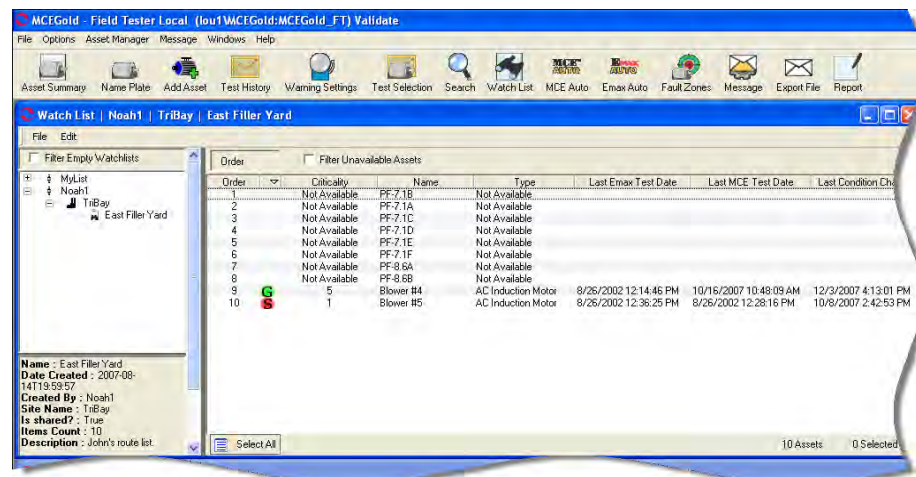

Figure 4-49: Field Tester Local - Home Window
2. Click **OK**. The home window of the Field Tester Local displays the WatchList and Message Center windows only. The Site Navigator, Site Condition, and DataSync buttons are not available. See Figure 4-49.